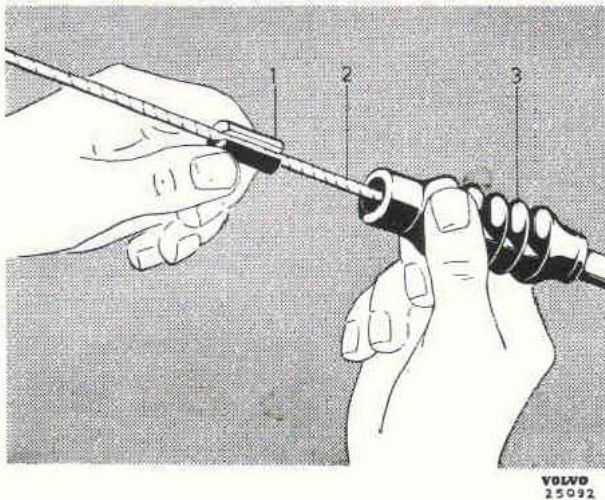

Fig. 49. Fitting the rubber cover.
If the handbrake cable rubber cover has been damaged for any reason, it must be replaced, otherwise water and dirt can penetrate, causing rusting. For this purpose there is special rubber cover with sealing plug (part numbers 86850 and 86851 respectively). When replacing, the pull rod is removed from the lever and the cable disconnected from the clevis. Cut off the old cover and fit on the new one. Connect the cable to the clevis and refit the pull rod. Push the slotted sealing plug (1, Fig. 49) onto the cable (2) and then press it into the rubber cover (3).